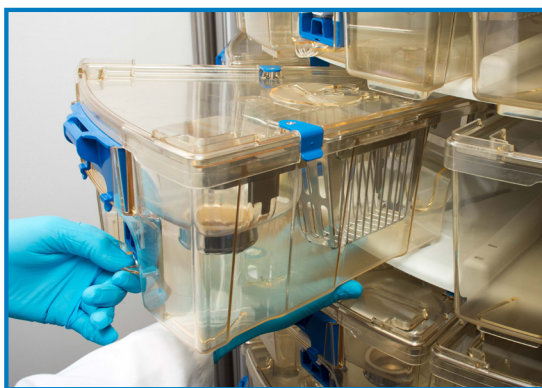

Figure 1
2. Pull the cage up and toward you (Figure 1).